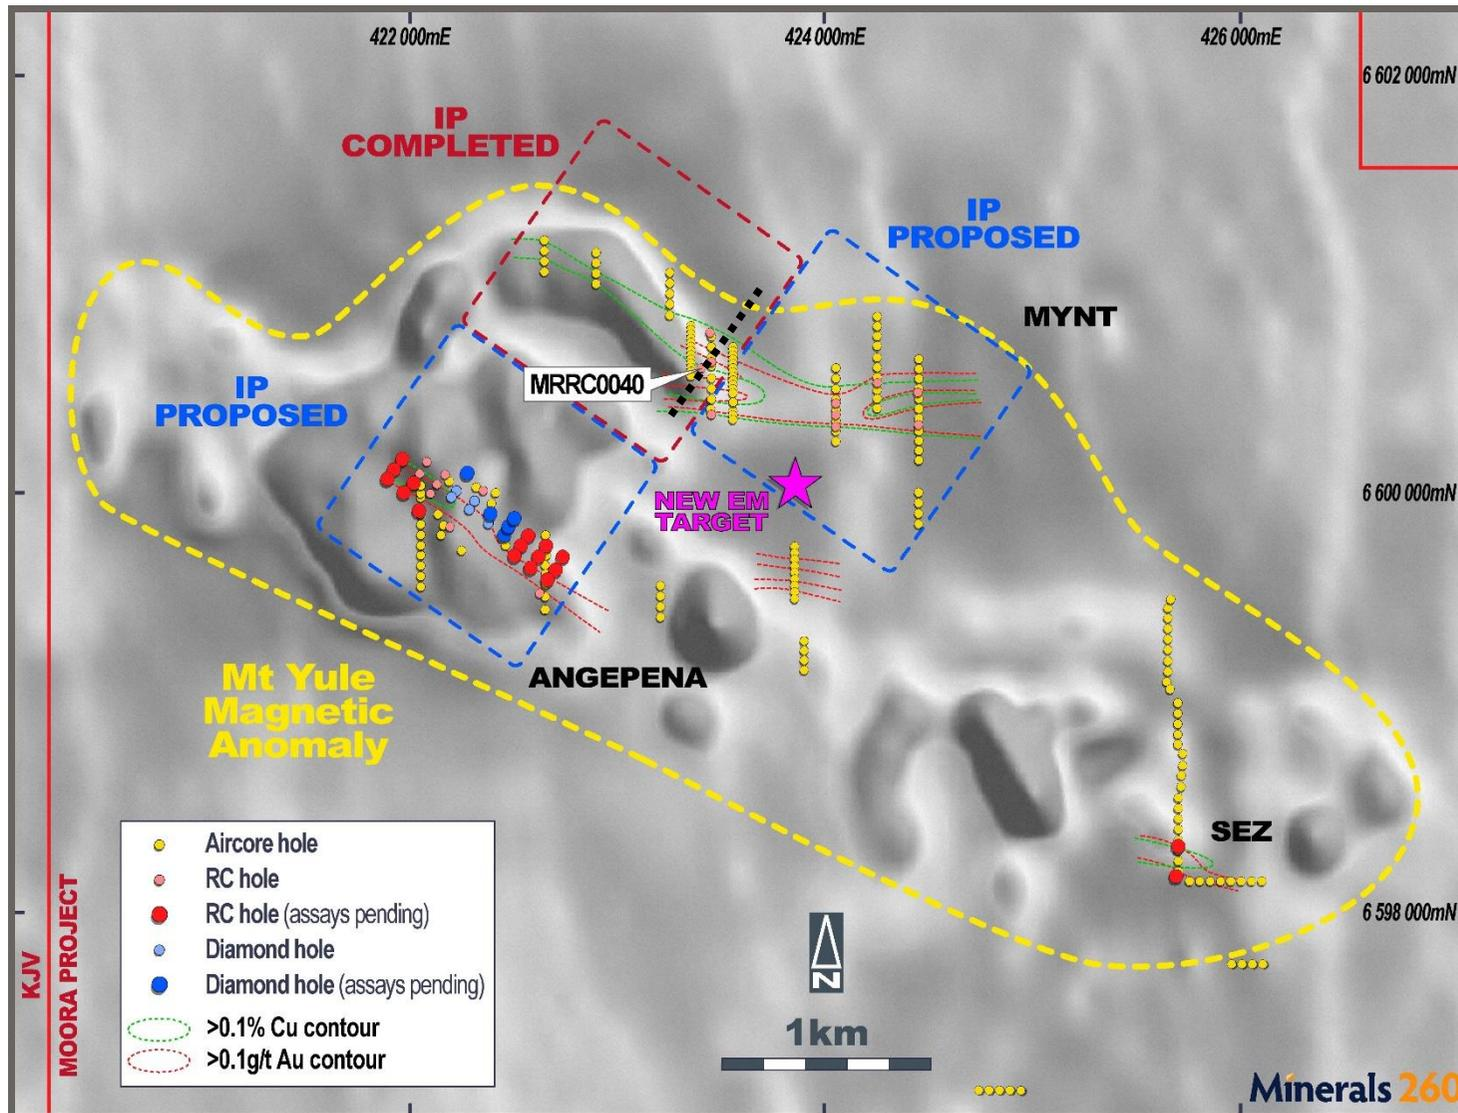

Figure 2: Mt Yule Magnetic Anomaly – Greyscale RTP TMI image showing drilling status and prospects.
In January 2022, the Company completed a 37-hole/6,196m diamond core/Reverse Circulation (RC) drilling program over prospects coincident with the Mt Yule Magnetic Anomaly, with the primary focus being on the Angepena gold prospect. RC holes were also drilled at the Mynt and SEZ prospects, located on the northern and south-eastern margins of the Mt Yule magnetic anomaly respectively (**Figure 2**).
The Mynt prospect is coincident with the northern margin of the Mt Yule magnetic anomaly, where previous geochemistry and drilling defined a plus-2km long copper/gold anomaly (**Figure 2**) with several significant intersections returned including:
A further GAIP survey is planned (**Figure 2**) to determine whether this zone is continuous with the conductive trend to the north-west or a separate target.
The Angepena prospect is located near the south-eastern margin of the Mt Yule magnetic anomaly, ~1.5km south-west of the Mynt prospect (**Figure 2**). Previous exploration including geochemistry and drilling has defined a potential extensive zone of gold mineralisation extending over a strike length of more than 900m with associated copper and cobalt.